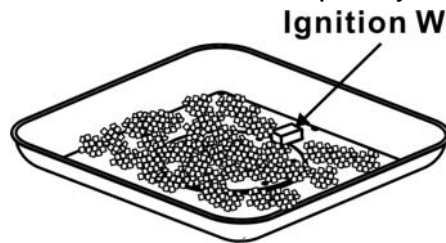

Figure 9
10. Pour the lava rocks into the burner completely covering the burner. See Figure 9.